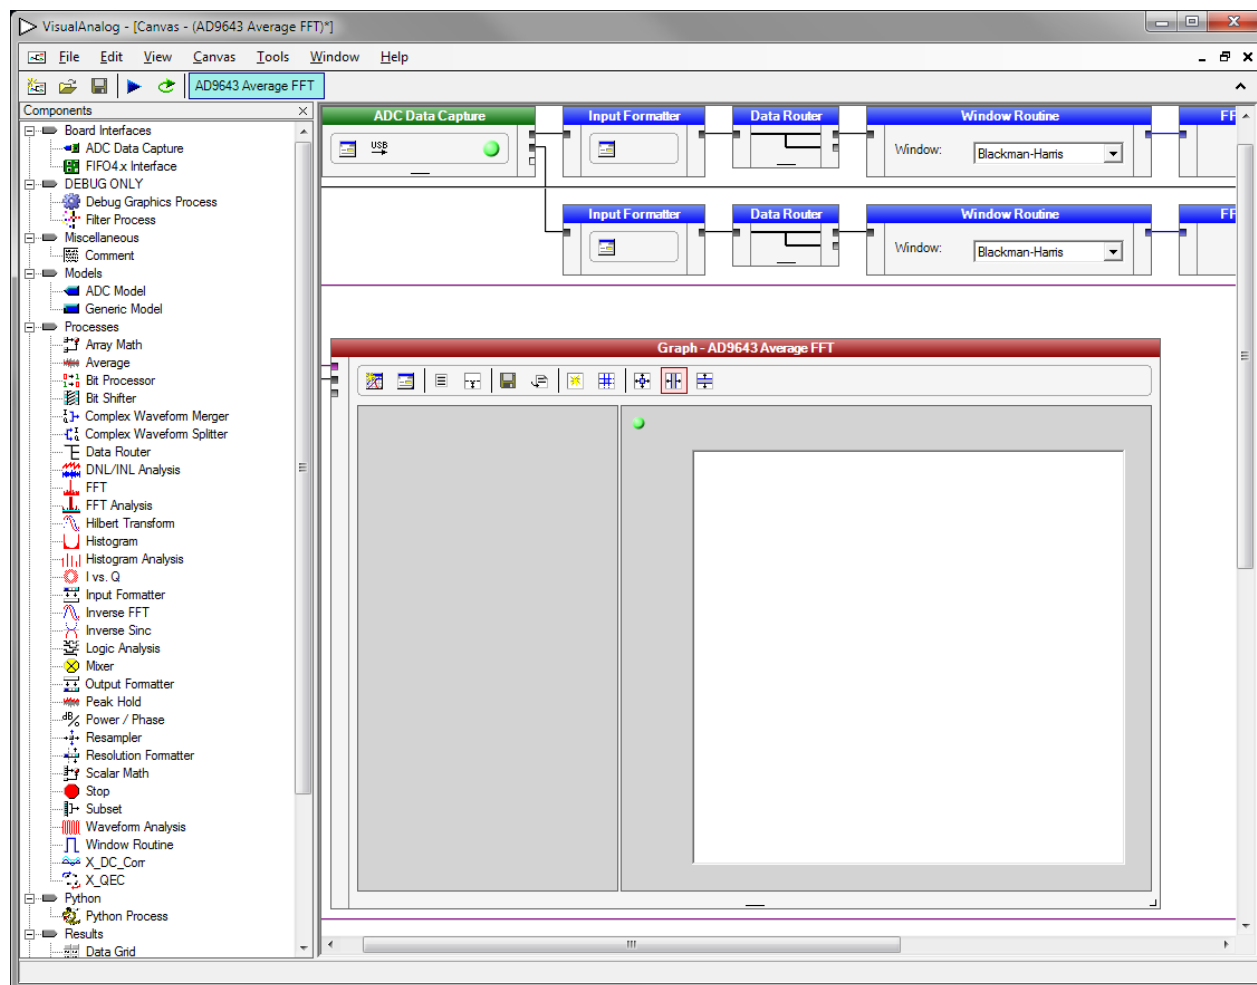

Figure 7. VisualAnalog, Main Window
3. To change features to settings other than the default settings, click the **Expand Display** button, located on the bottom right corner of the window, to see the main window that is shown in Figure 7.
- In VisualAnalog, click the **Settings** button in the **Input Formatter** block (see Figure 7). Check that **Number Format** in the settings of the **Input Formatter** block is set to the correct encoding (offset binary by default). Repeat for the other channel.